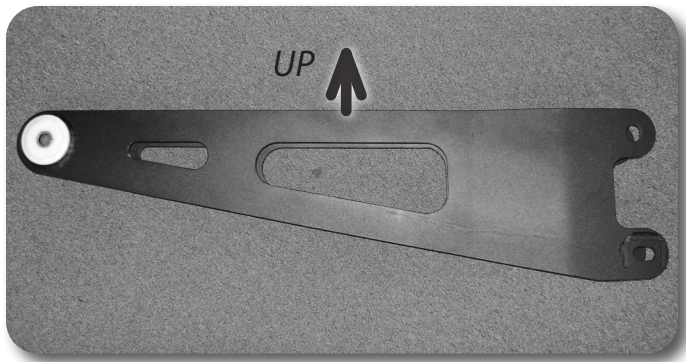
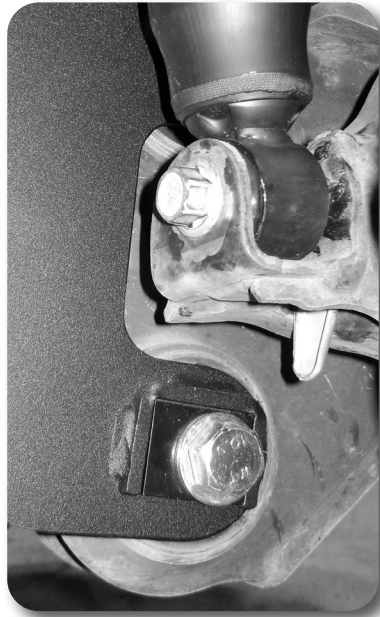

Figure 18A
Figure 18B
36. Install the new radius arm to the factory axle mounts. The end of the radius arm with the cam tabs goes to the bottom axle mount. **Figure 18A**. Loosely fasten the radius arm with the factory hardware. At the lower mount, install the provided rectangle cam plates on the new 18mm x 150mm bolt with a 3/4" SAE flat washer. The cam should be installed so the bolt is forward in the slot. **Figure 18B** Leave hardware loose.